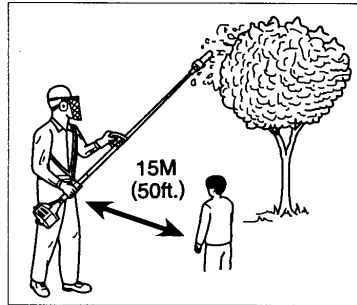

Fig. 2-10
- Spectator and fellow workers must be warned, and children and animals prevented from coming nearer than 15M (50ft.) while the pole saw is in use. (Fig. 2-10)
- Always wear head protection with full face shield to help protect against falling branches and debris. (Fig. 2-10)